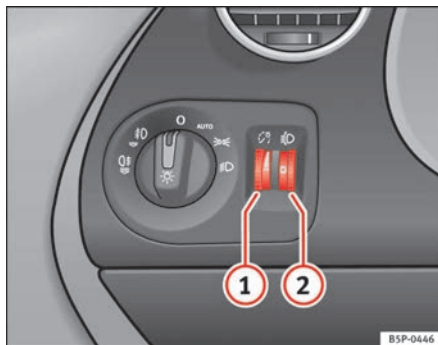

Fig. 74 Instrument panel: regulation for instrument and switch illumination and headlight range control
When the headlights are switched on, the brightness of the instruments and switch lighting can be regulated to suit your requirements by turning the thumb wheel ⇒ fig. 74 ①.